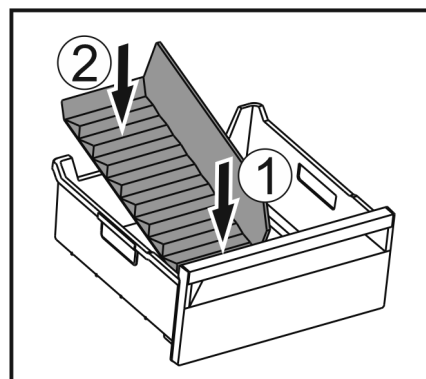

Fig. 176
- Insert the front part of the ice compartment divider. Fig. 176 (1)
- Lower the rear part of the ice compartment divider to the drawer bottom. Fig. 176 (2)